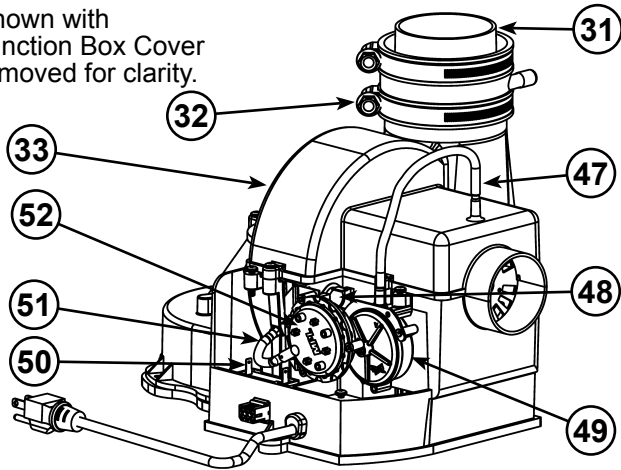

Figure 51
- 31 ****Rubber Coupling (see Figure 4) (see also **Figure 51**)
- 32 Gear Clamp (see Figure 4) (see also **Figure 51**)
- 33 ***Blower with Power Cord (see Figure 4) (see also **Figure 51**)
- 47 Air Tubing (Intake) (see Figure 4) (see also **Figure 51**)
- 48 Blower High Limit Switch (see Figure 4) (see Figure 51)
- 49 Intake Air Pressure Switch (NC) (inside box) (see Figure 4) (see also **Figure 51**)
- 50 Capacitor (see Figure 4) (see also **Figure 51**)
- 51 Air Tubing (Exhaust) (see Figure 4) (see also **Figure 51**)
- 52 Exhaust Air Pressure Switch (NO) (inside box) (see Figure 4) (see also **Figure 51**)